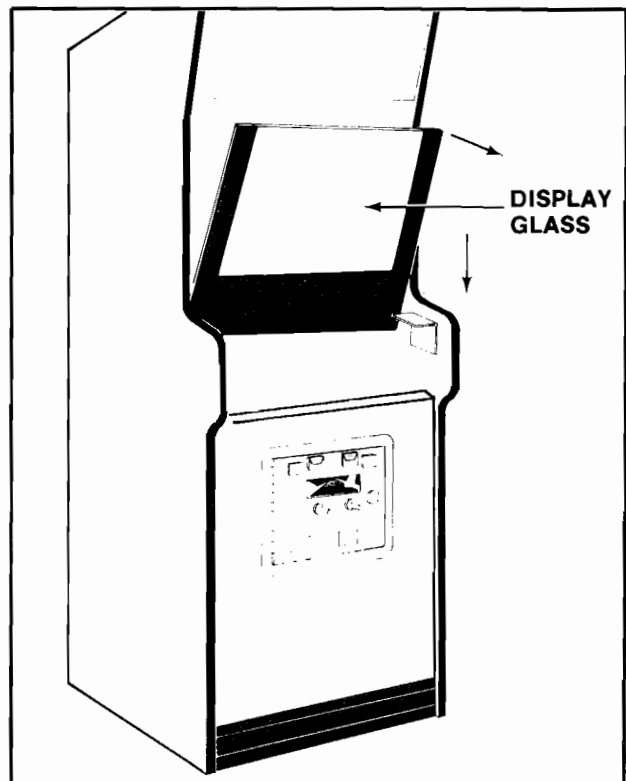

Figure 3-3 Removing the Main-Display-Glass & T.V. Bezel
- By putting your finger in the hole in the middle of the main-display-glass/diffuser support, you can lift them **BOTH** up slightly and pull them toward you about an inch. Now let them down just far enough so you can get hold of their top edges with your other hand and lift them **BOTH** out of the game. See Figure 3-3.